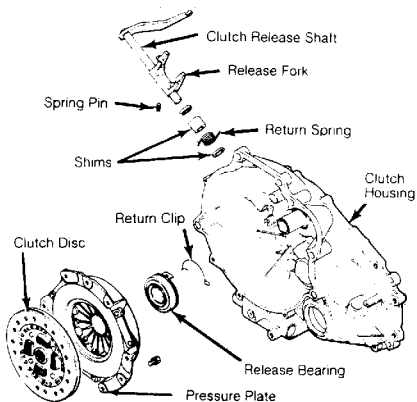

Fig. 3: Exploded View Of Clutch Assembly (Typical)
6) Diagonally loosen pressure plate bolts to avoid warping pressure plate flange during removal. Remove pressure plate and clutch disc. See Fig. 3.
warping pressure plate flange during removal. Remove pressure plate and clutch disc. See Fig. 3.
4) Slide transaxle assembly to the right and lower unit from vehicle. Insert a clutch pilot to prevent pressure plate and clutch disc from dropping. Diagonally loosen pressure plate bolts to avoid warping pressure plate flange during removal. Remove pressure plate and clutch disc. See Fig. 3.
6) Insert a clutch pilot to prevent pressure plate and clutch disc from falling. Loosen pressure plate bolts diagonally to avoid warping pressure plate flange. Remove pressure plate and clutch disc. See Fig. 3.